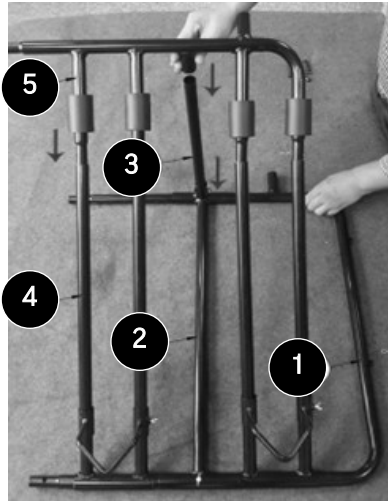

Fig. 4
4. Connect the connector tubes (#3) with the I-tubes (#2) using bolts and pins (#9). Mount the bottom bike racks (#5) to the top bike racks (#4) and connector tube assembly using bolts and pins. Refer to Fig. 4.